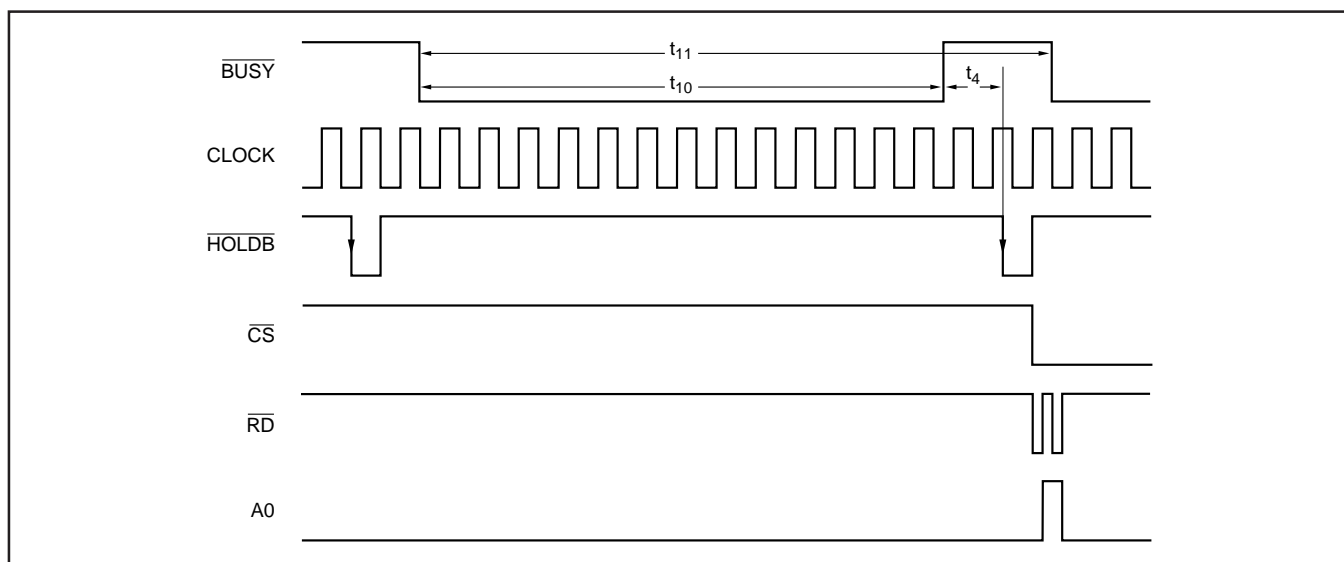
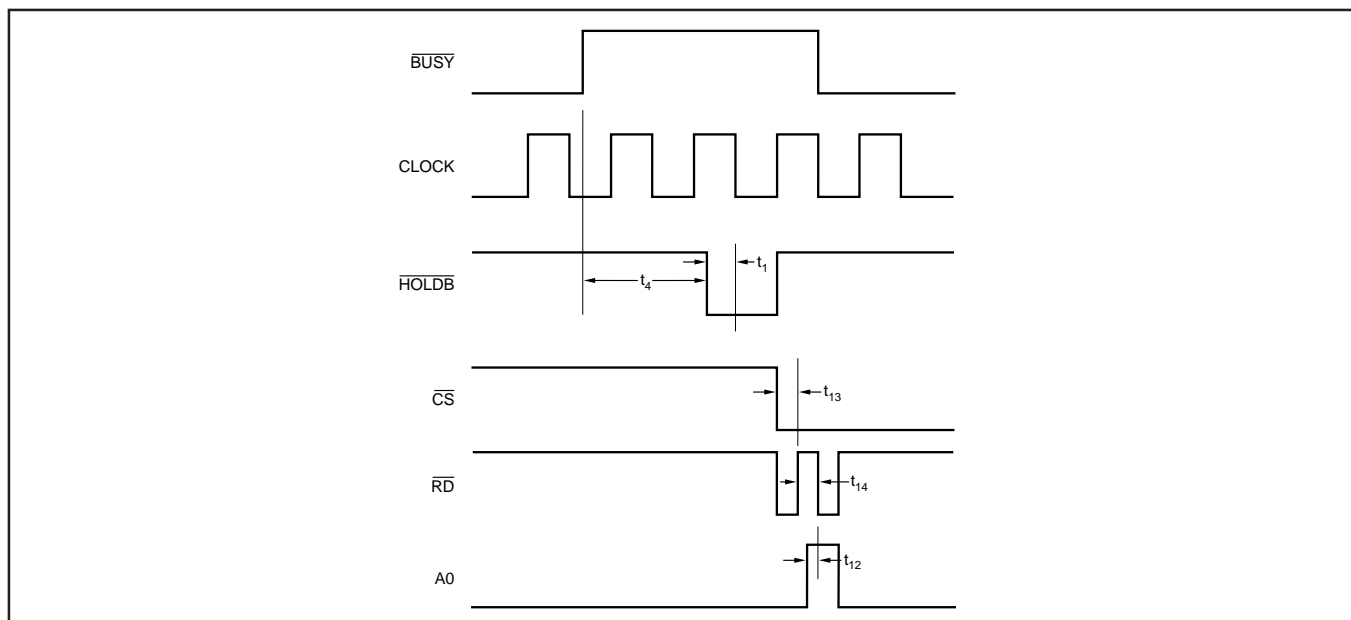

FIGURE 9. Timing of One Conversion Cycle.
FIGURE 10. Timing for Reading Data.
**BUSY**—Busy goes LOW when the internal A/D converters start a new conversion. It stays LOW as long as the conversion is in progress (Figure 9, 13 clock-cycles,  $t_{10}$ ) and rises again, after the data is latched to the output register. With busy going high, the new data can be read. It takes at least 16 clock cycles (Figure 9,  $t_{11}$ ) to complete conversion.
Once a particular hold signal goes low, further impulses of this hold signal are ignored until the conversion is finished or the part is reset. When the conversion is finished ( $\overline{\text{BUSY}}$  signal goes high) the sampling switches will close and sample the selected channel. The start of the next conversion must be delayed to allow the input capacitor of the ADS7864 to be fully charged. This delay time depends on the driving amplifier, but should be at least 175ns (Figure 9,  $t_4$ ).
The ADS7864 can also convert one channel continuously, as it is shown in Figure 9 with channel B. Therefore,  $\overline{\text{HOLDA}}$  and  $\overline{\text{HOLDC}}$  are kept high all the time. To gain acquisition
**READING DATA ( $\overline{\text{RD}}$ ,  $\overline{\text{CS}}$ )**—In general, the channel/data outputs are in tristate. Both,  $\overline{\text{CS}}$  and  $\overline{\text{RD}}$  have to be LOW to enable these outputs.  $\overline{\text{RD}}$  and  $\overline{\text{CS}}$  have to stay LOW together for at least 30ns (Figure 10,  $t_{13}$ ) before the output data is valid.  $\overline{\text{RD}}$  has to remain high for at least 30ns (Figure 10,  $t_{14}$ ) before bringing it back LOW for a subsequent read command.
With (A2 A1 A0) = 000 to 101 a particular channel can directly be addressed (see Table II and Figure 9). The channel address should be set at least 10ns (Figure 10,  $t_{12}$ ) before the falling edge of  $\overline{\text{RD}}$  and should not change as long as  $\overline{\text{RD}}$  is low.